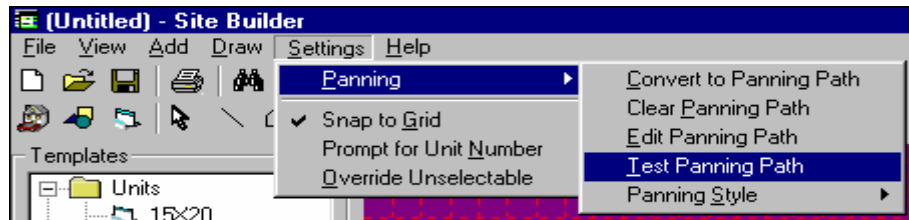

Figure 38
6. After that is completed, you will need to save the file and close PTI Site Builder. Then start the PTI Site Graphics program to view the Panning path. If the Panning path is correct you are done, if not, close the PTI Site Graphics program and reopen the PTI Site Builder. Once that is completed go to Settings>Panning>Edit Panning (Figure 38). From there the panning path polyline reappears. Changes can be made by selecting the endpoints or corners and moving them to the desired position (left click and hold the point and move).